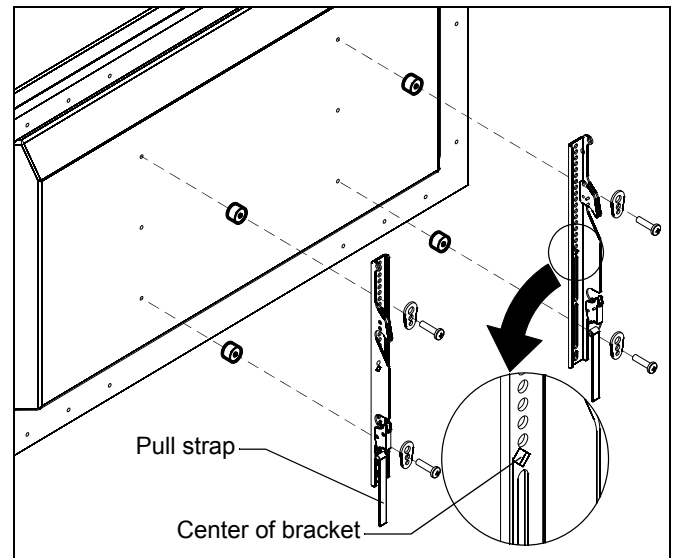

Figure 4
1. Align the center of the bracket with center of screen. (See Figure 4)
2. Select correct screws, spacers (if necessary) and universal washers from the hardware bag (A-N) and attach brackets to back of screen. (See Figure 4)